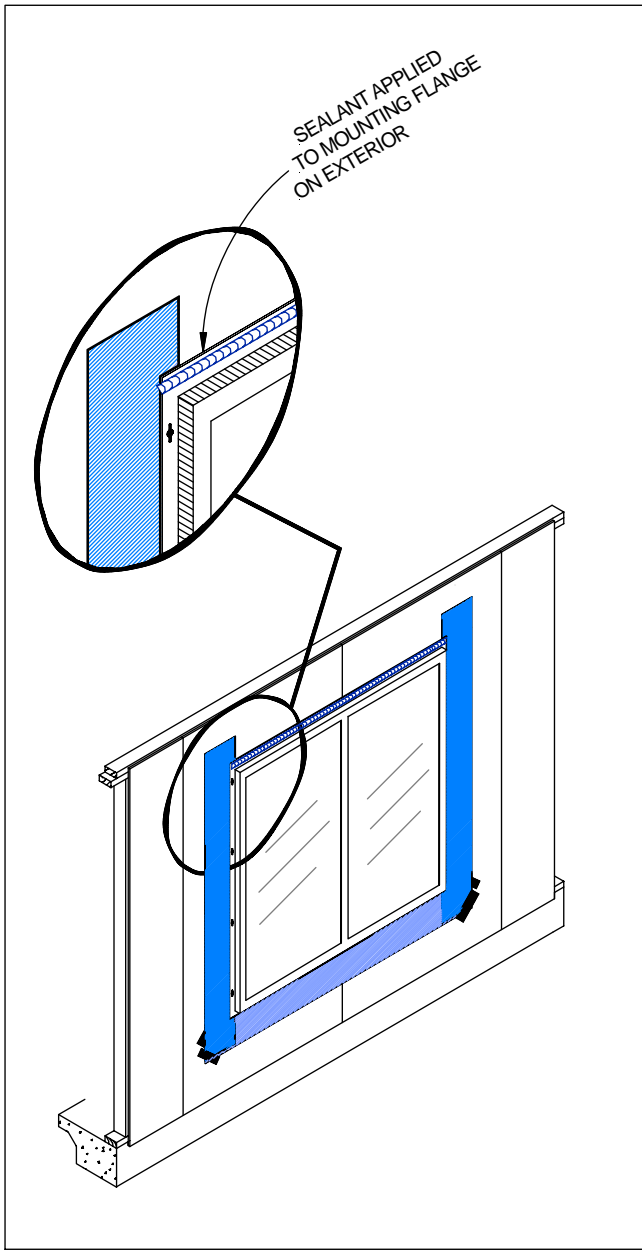

Figure B.8.1
8. Apply a 3/8” continuous bead of sealant to the nailing fin at the head of the installed window, covering the pre-punched holes and fasteners previously installed. **See Figure B.8.1**